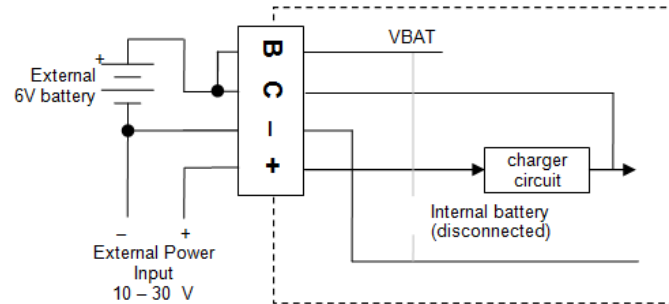

Figure 124: Connecting an external 6V battery – internal battery disconnected or removed
- connecting the link between the **B** and **C** terminals but disconnecting the internal battery connector (Figure 124). If desired the internal battery can then be removed altogether. This is the preferred option because then the **VBAT** channel type can be used to monitor the state of the external battery; see Monitoring DT80 Power \(P292\).